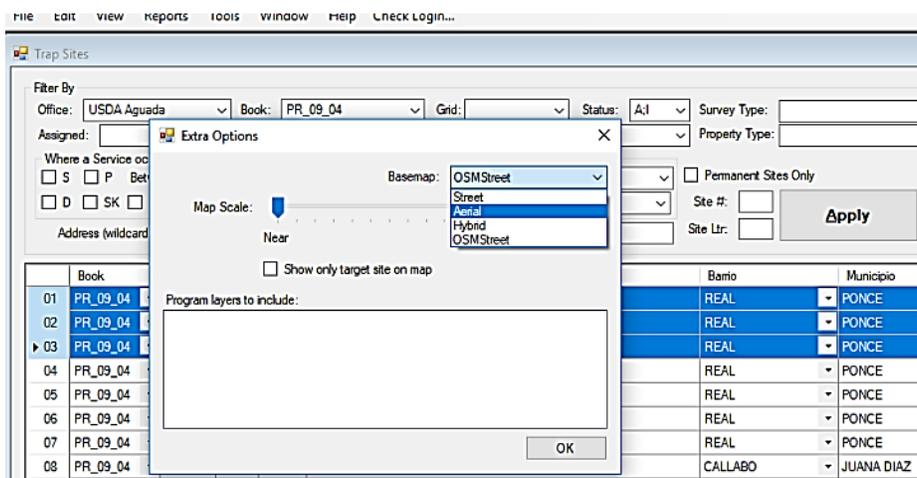

Figure 14. Set Map Scale and Basemap type
**Step 6:** Adjust the map scale and choose the basemap. Click OK. (Figure 14)